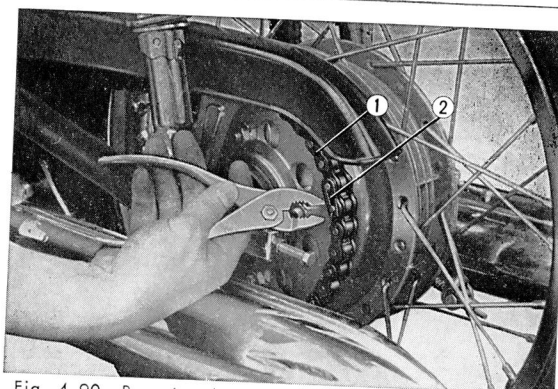

Fig. 4.90 Removing the drive chain clip
- ⑩ Rear brake shoe
- ⑪ 6304Z ball bearing
- ⑫ 4.0×10 mm center pin
- ⑬ Rear axle nut
- ⑭ Rear brake panel collar
- ⑮ Rear axle spacing collar
- ⑯ Driven sprocket bolt
- ⑰ Final driven sprocket
- ⑱ Rear wheel hub
1. Remove the drive chain joint, and disconnect the chain. (Fig. 4.90)